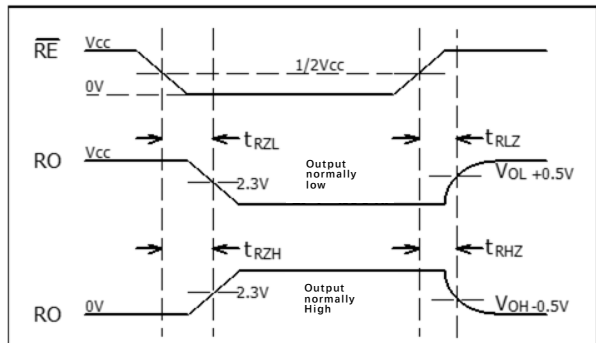

Figure 9 Receiver Enable and Disable Times
(9) Test circuit is shown in Figure 9